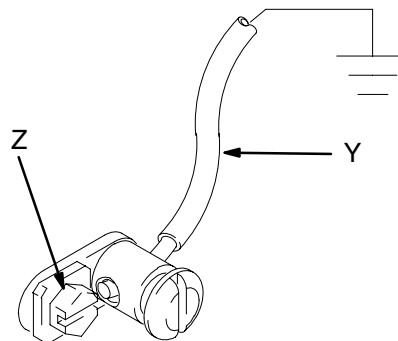

Fig. 1
- *Pump:* Use ground wire and clamp as shown in Fig. 1.
To ground the pump, use a ground wire and clamp as shown below. Remove the ground screw (Z) and insert through the eye of ring terminal at end of ground wire (Y). Fasten the ground screw back onto the pump and tighten securely. Connect the other end of the ground wire to a true earth ground. See Fig. 1. *To order a ground wire and clamp, order Part No. 222011.*